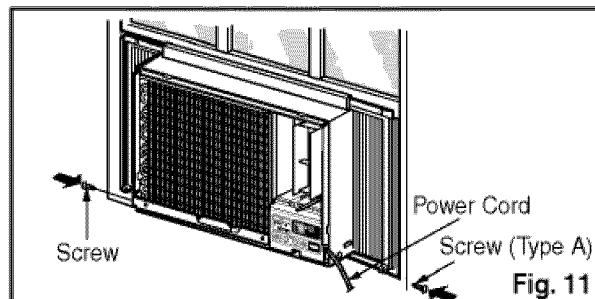

Fig. 11
7. Slide the unit into the cabinet. (See Fig. 11)